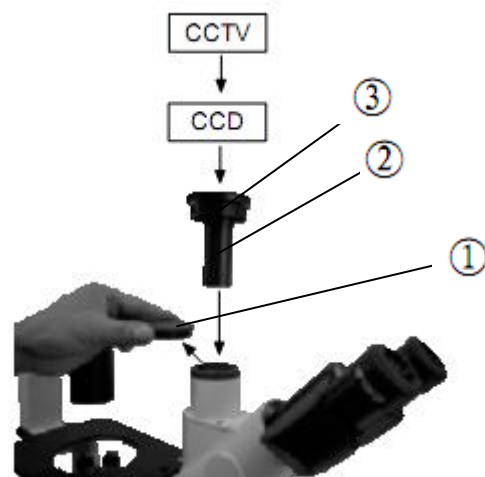

Fig.42
6-1-2 Installing the video set (Fig.42)
1. Take away the dust cap ① on trinocular tube.
2. Inset the video accessory ② into trinocular tube and screw the pressing ring ③ tightly.
3. Screw the mount adapter with CCD camera into the video accessory port ② in the direction as shown in Fig.42.
6-1-3 Focus (Fig.42)